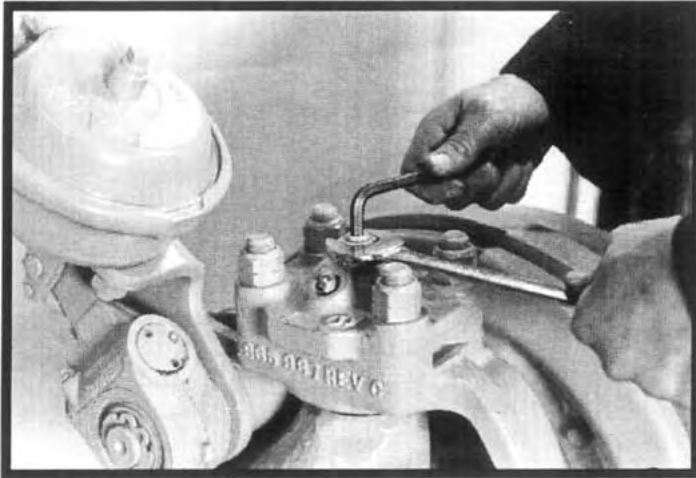

Figure 4
3. Loosen the upper kingpin adjustment jam nut and back out the adjusting screw four full turns. The drive end assembly will begin to lower as the screw is turned out. See Figure 4.